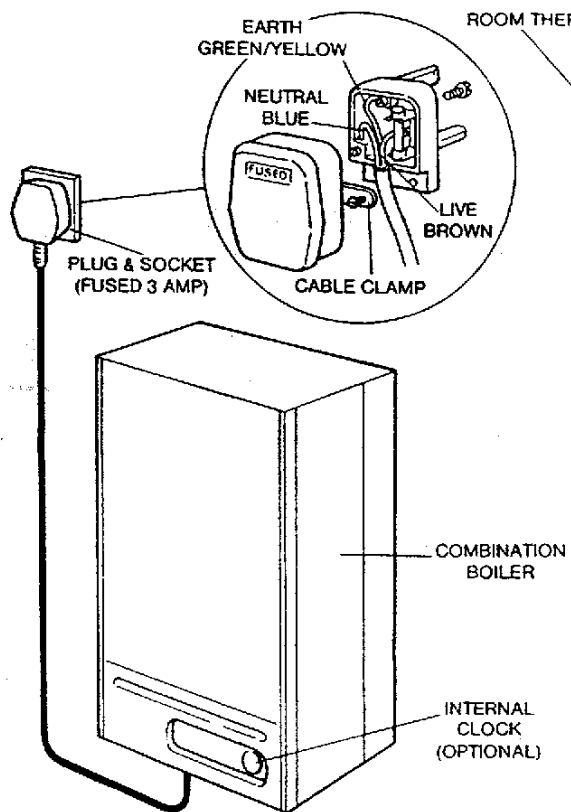

Fig. 9 BASIC WIRING ARRANGEMENT
10. ELECTRICAL SUPPLY (See Fig.9 & 10)